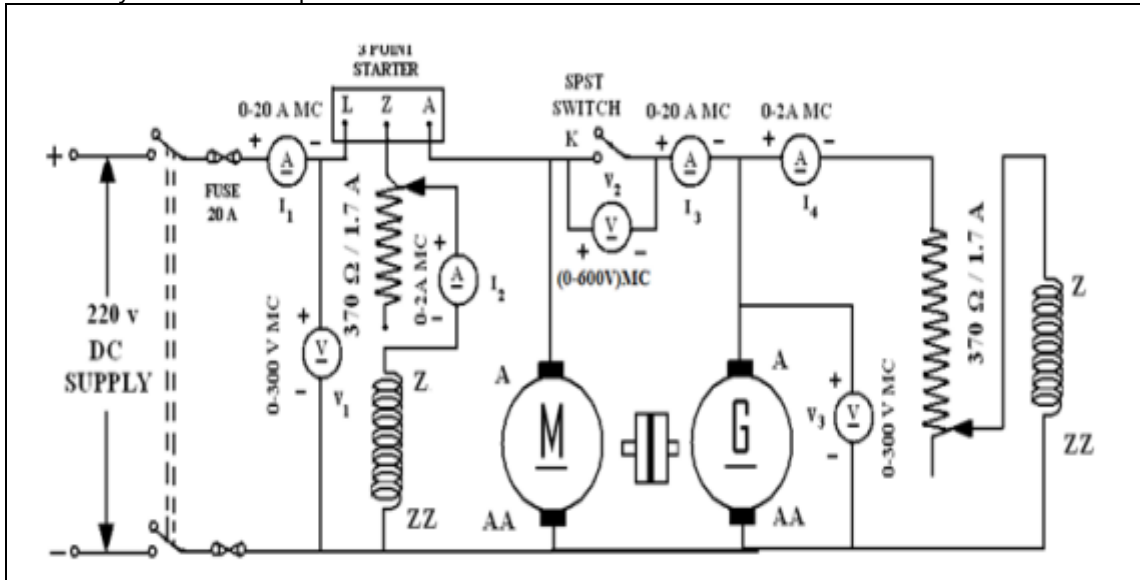

Figure 5 - Identical DC Shunt Machines
2. Motor armature current 10A, field current 1A and 2A Figure 5.